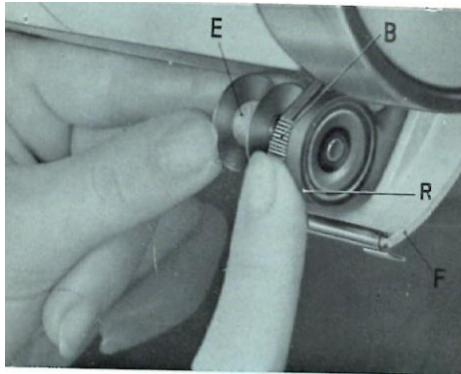

Figure 15
- f) With the forefinger of the right-hand press down level B (figure 15) (and consequently also the cover F) and keep it down.
- g) Take bobbin with thumb and forefinger of the left hand, place it on spindle E (Figure 15) and push it slightly toward the right, until it reaches its position on the spindle.